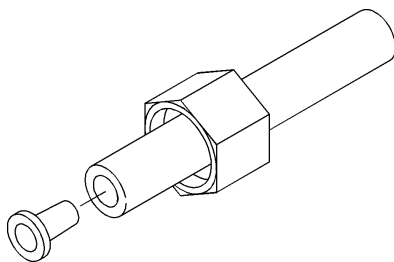

FIG. 7
- Slip the white nut over one end of the tubing and press the plastic insert into the end of the tubing. Connect to the brine valve and tighten nut. (Fig. 7)